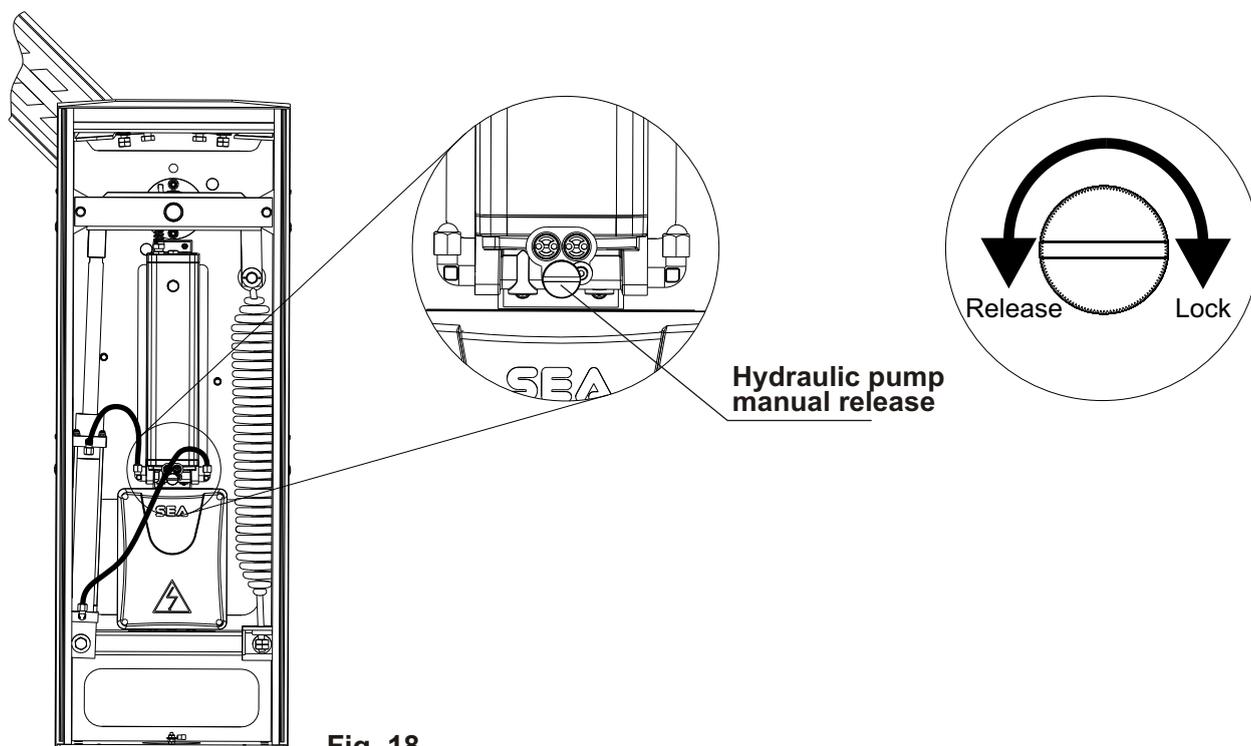

Fig. 18
**N.B.:** Before executing this operation release the operator as shown in Fig. 18.